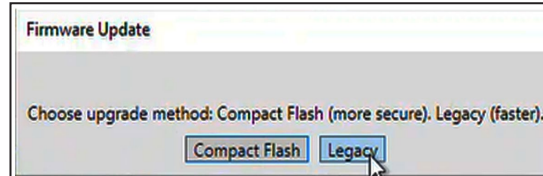

Figure 19. The Firmware Update dialog box upgrade method choice.
**STEP 8.** The Firmware Update dialog box will prompt for selection of the upgrade method. Click on one of the options to proceed. See Figure 19.